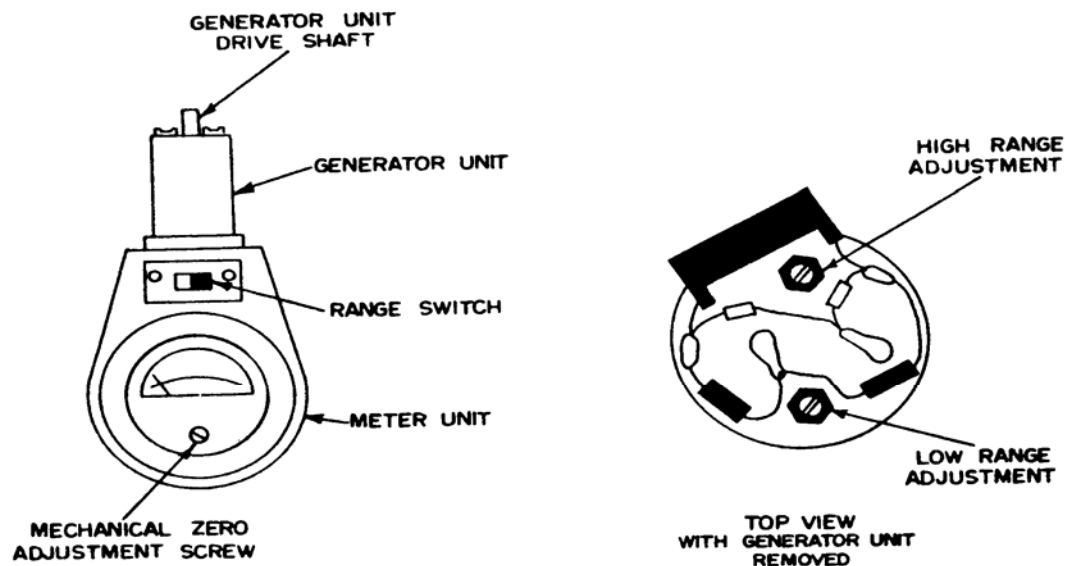

Figure 1. Electric tachometer - generator.
(1) Adjust tachometer calibrator display for a 2500 RPM indication.
(2) Adjust low range adjustment (fig. 1) for 2500 RPM on TI (R).
(3) Set **RANGE** switch of TI to **HI**.
(4) Adjust tachometer calibrator display for a 5000 RPM indication.
(5) Adjust high range adjustment (fig. 1) for 5000 RPM on TI (R).
(6) Repeat 8 a above.